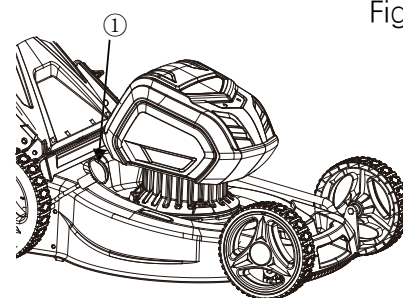
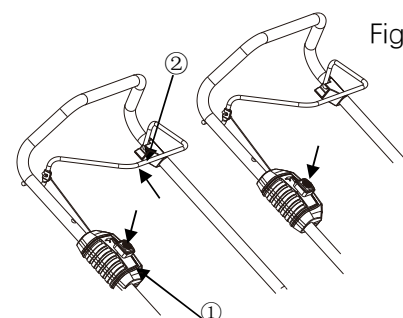

Fig. 6
Fig.7
## 8. Adjustment of cutting height (See Fig.6)
## 9. Starting/Stopping the PTG2220 Lithium-Ion Battery Lawn Mower (See Fig. 7)
- 1) Open the battery door and insert the Safety Key into the slot. Then close the battery door. (See Fig.6)
- 2) Pull the safety interlock lever ( ② ) down to the handle to start the PTG2220 Lithium-Ion Battery Lawn Mower .
- 3) Press and hold the safety interlock button ( ① ) (See Fig.7)